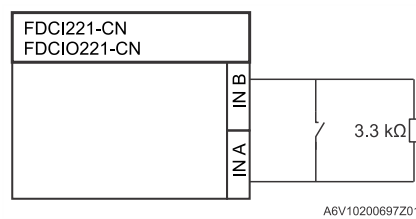

Fig. 8
- Input monitored for open line: Fig. 8
3. Connect the resistors to the end of the input line (Fig. 8 and Fig. 9).